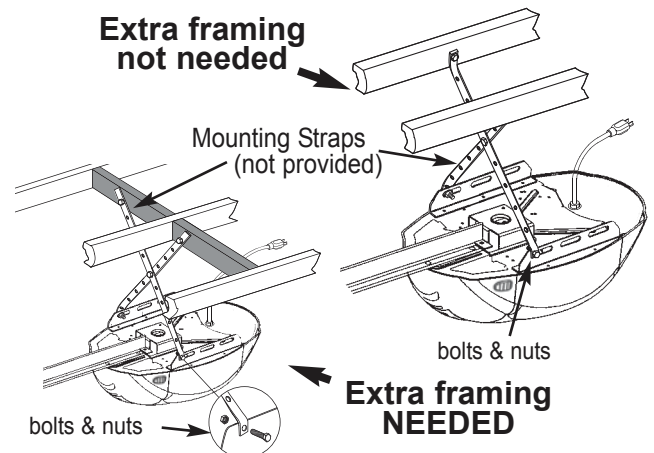

FIG. 2-6 Mounting the power head
- On **finished** ceilings, locate ceiling joists or trusses using a stud finder or similar device. Attach angle iron (not provided) to joists or trusses through finish material using (provided) lag screws (**Fig. 2-6**).
- On **unfinished** ceilings or open ceilings, straps may attach directly to joists or trusses. Depending on the garage construction, extra framing material (not provided) which may be required should be installed using appropriate construction techniques (**Fig. 2-6**).
- Attach mounting straps (not provided) to ceiling using lag bolts (**Fig. 2-6**).
- Set height of power head to following (**Fig. 2-6**).